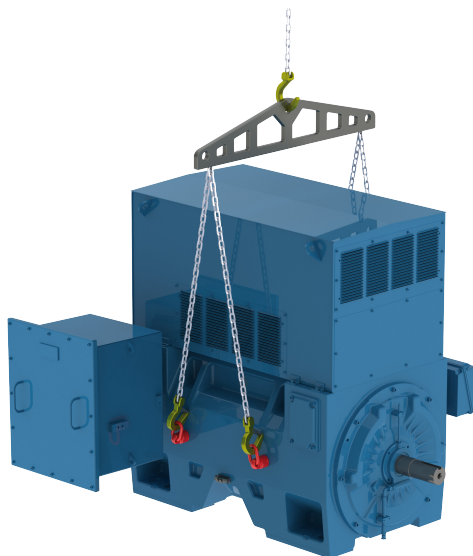

Figure 4.6: Lifting for W60 motors with paralel chains
- For W60 motors, as shown in Figure 4.6 on page 15, the use of a spreader beam is required for maintaining the lifting elements (chain or rope) in vertical position and thus preventing damage to the motor surface.